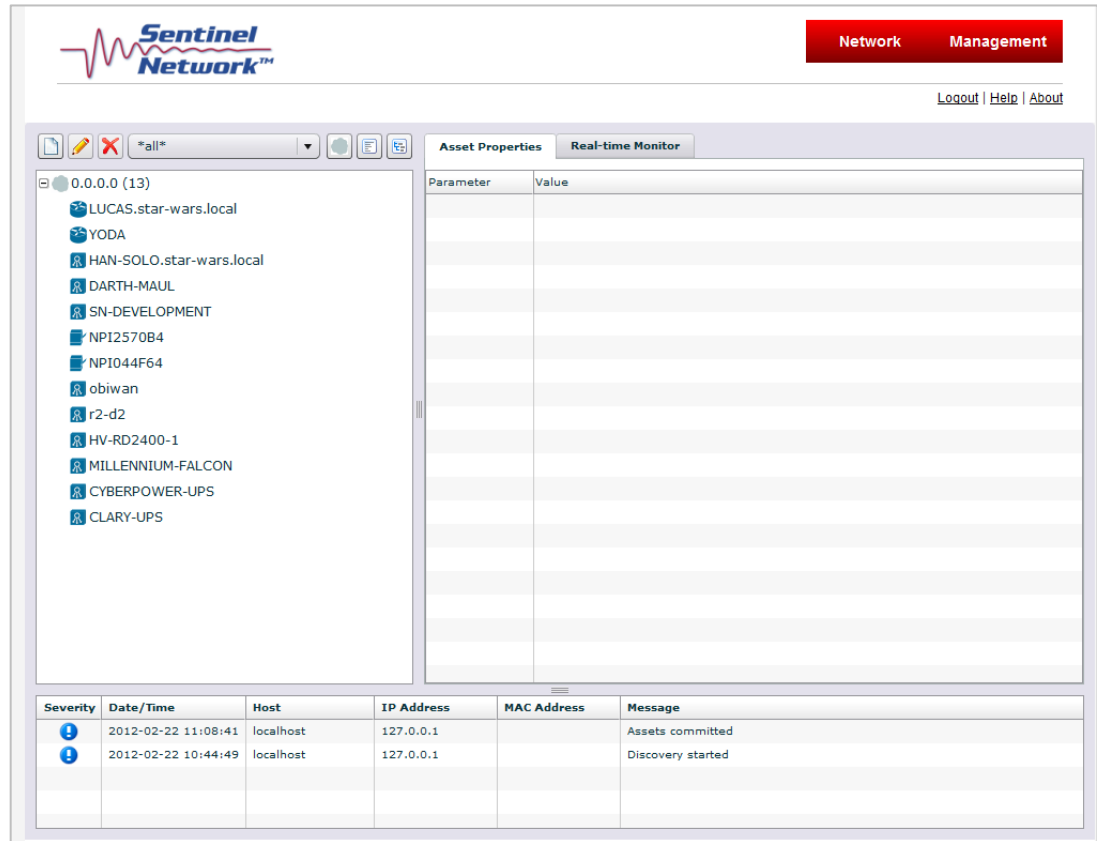

Figure 6: The discovered assets tree
7. In the main window, you will see at top left the discovered assets tree, shown as **0.0.0.0 (n)**, where n represents the number of assets committed. Click the **plus sign** next to this to reveal all the discovered assets that have been committed. Now the asset list will look similar to that shown in Figure 6.